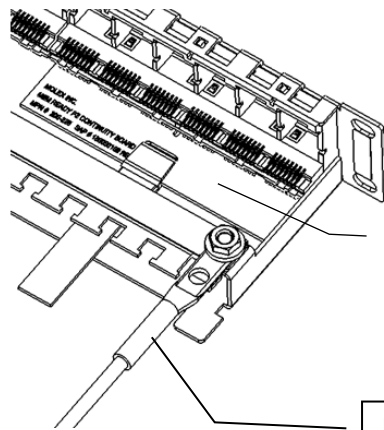

Fig. 5
Install 4 continuity boards in the slot below the contacts on the bezel. Continuity boards (or MIIM E-module) are required to maintain continuity on the permanent link (See Fig.5). FAILURE TO INSTALL CONTINUITY BOARDS WILL RESULT IN OPEN PAIRS.
1. Individually ground (earth) each patch panel to cabinet ground (earth) position by securing grounding lug to panel grounding stud (see Fig. 5).